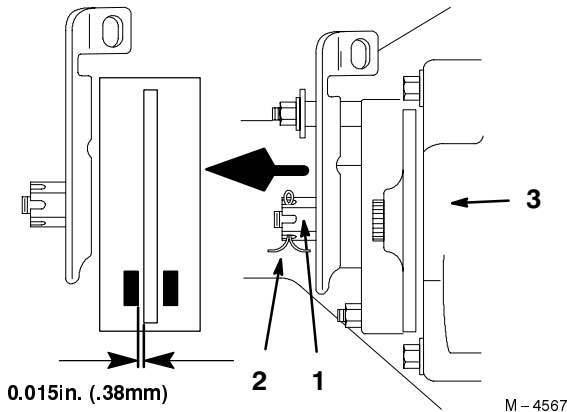

Figure 28
3. To adjust the brake remove the cotter pin and loosen the brake adjusting nut slightly (Fig. 28).
4. Carefully insert a 0.015" (.38 mm) feeler gauge between the outer brake pad and rotor disk (Fig. 28).